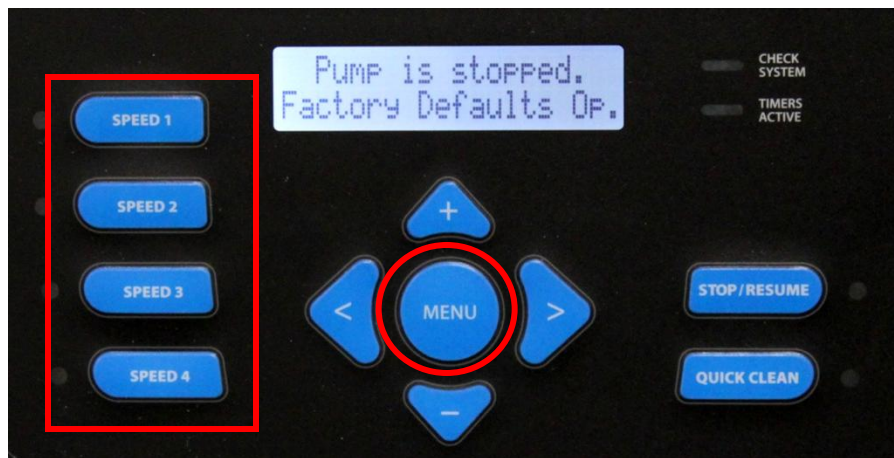
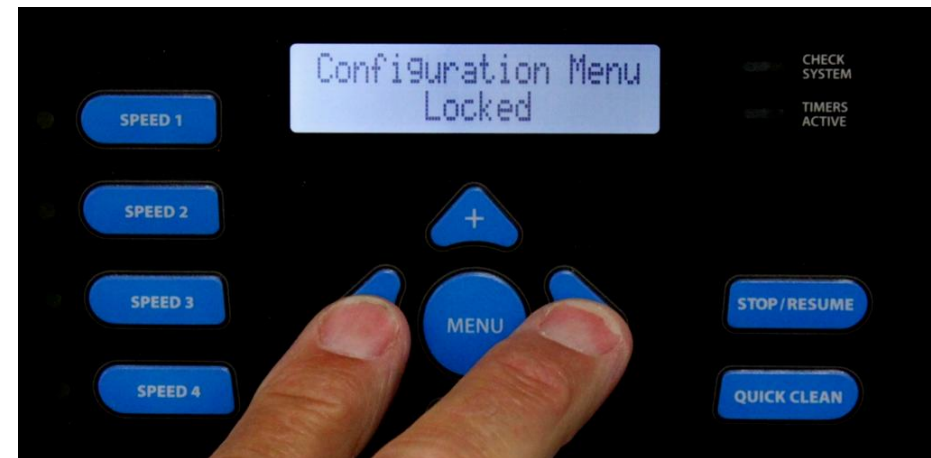

Fig 32
Fig 33
2. Since timer 1 has a factory default setting the pump will come on and run until the timer is changed or set as off. Press the  button (fig 32) to select the Configuration menu (fig 33).
3. Press and hold down the  &  buttons as shown to unlock and enter the Configuration menu (fig 33).